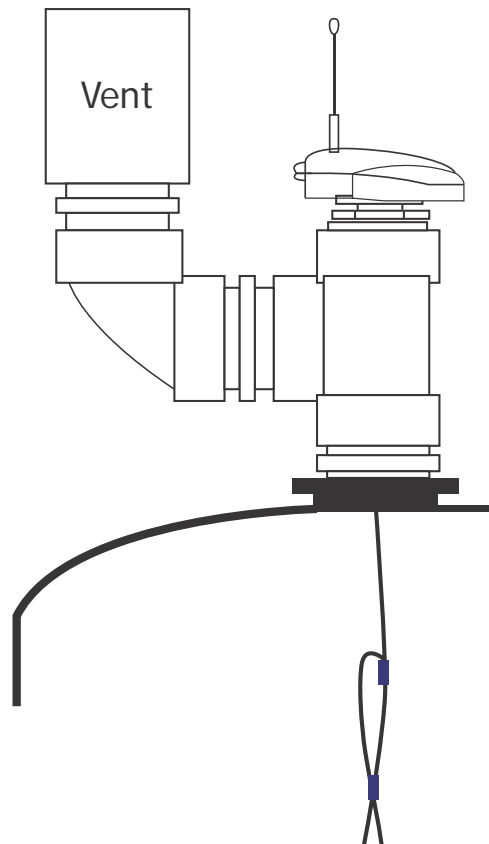

Figure 4. Vent Kit Installation
- 2) Assemble the vent kit items in the manner shown in Figure 4.
- 3) Install the existing vent assembly onto the 90° elbow as shown in Figure 4.
- 4) Install the Sentinel unit onto the top of the tee as shown in Figure 4 by slowly lowering the sensor into 2" tank opening.